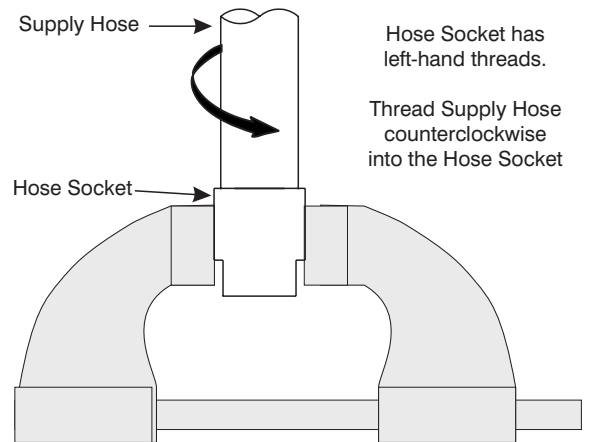

Figure 9-9. Hose Socket and Hose in Vise.
With its larger internal bore (hose end) facing up, clamp the Hose Socket (14) in a vise, as shown in Figure 9-9.